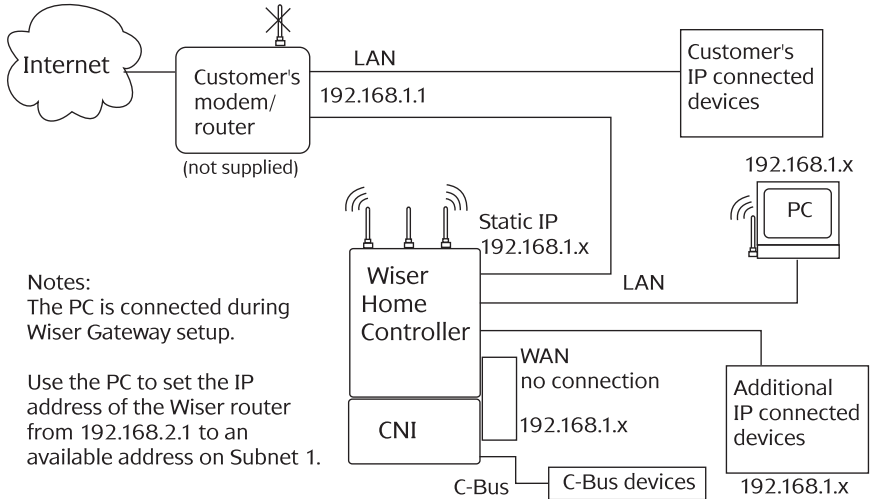

Figure 4. Option B, Wiser Home Controller placed on the customer's LAN
- Option B. Place the Wiser Home Controller on the existing customer LAN as shown in Figure 4. This configuration allows you to make minimal changes to the customer's equipment setup.